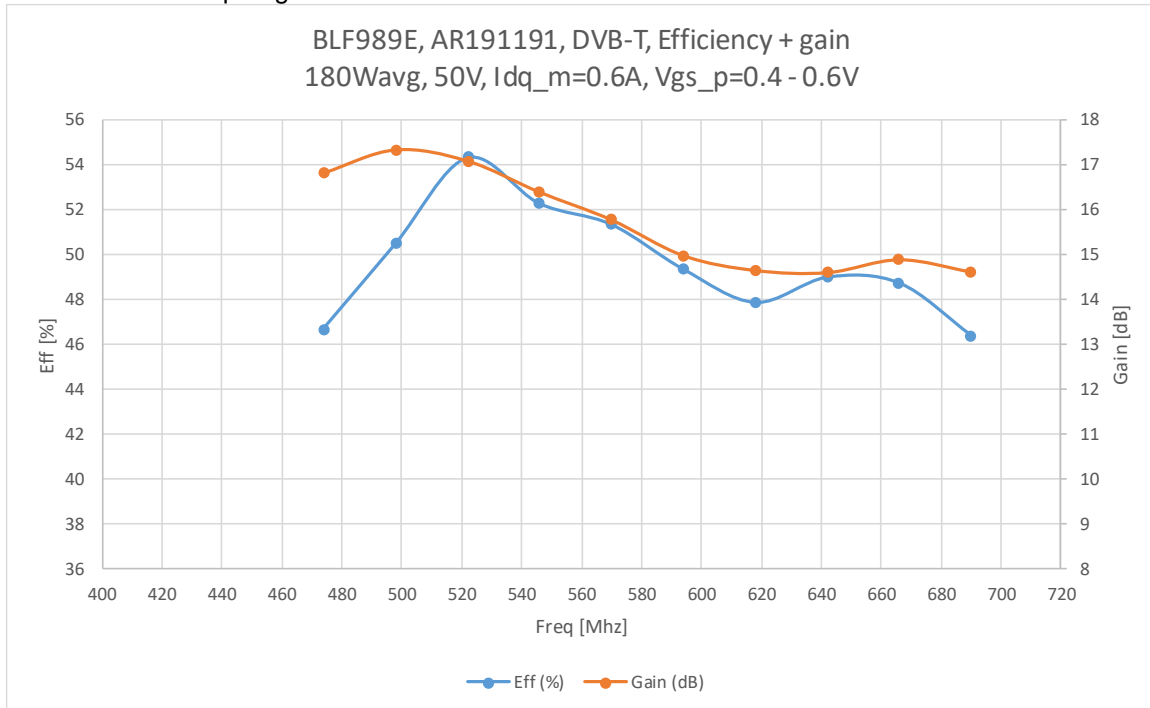

Figure 4 DVB-T, (Drain) efficiency + Gain Pre-corrected values
- Figure 4 DVB-T, (Drain) efficiency + Gain .. Pre-corrected values 7